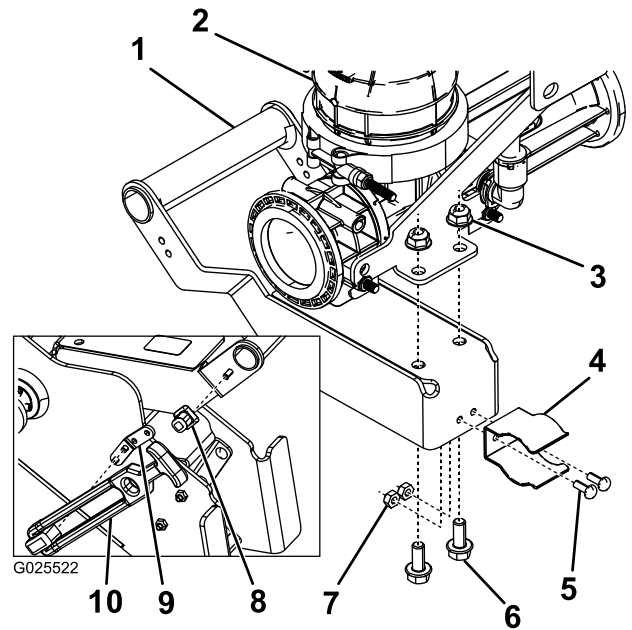

Figure 13
1. Attach the latch post to the eductor handle using a hex-head bolt (Figure 13).
2. Attach the extension bracket to the main support frame using 2 hex-head bolts (Figure 13).
3. Connect the latch handle to the extension bracket (Figure 13).
4. Attach the handle to the eductor using 2 flange-head bolts and flange-head nuts (Figure 13).